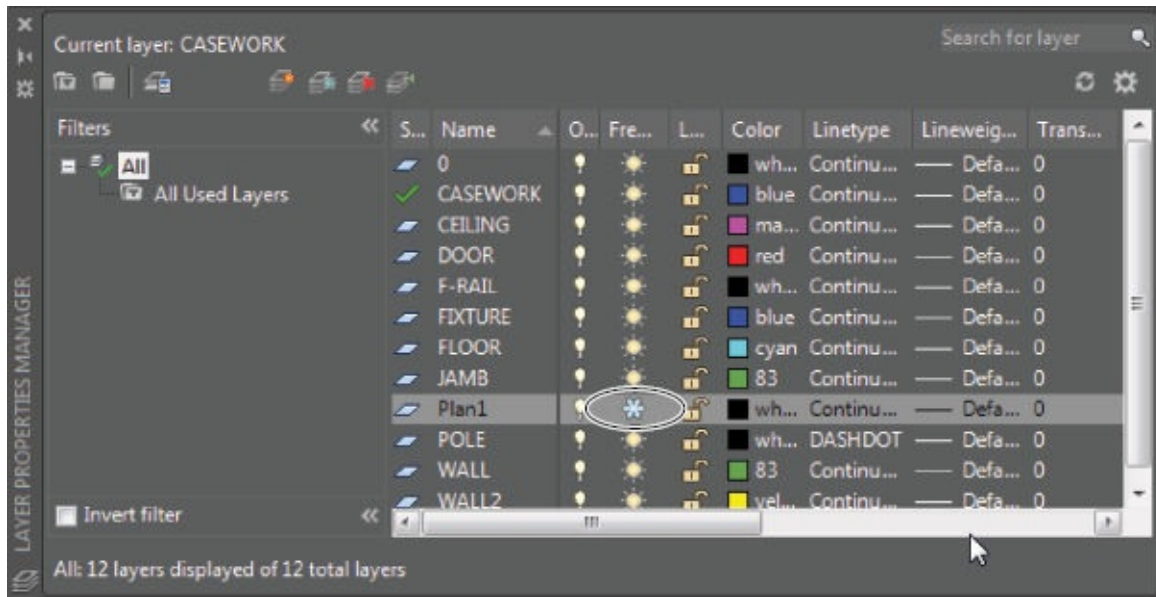

FIGURE 7.7 Freezing the Plan1 layer
6. Click the `Plan1` layer to select it and then click its Freeze/Thaw icon. (You can't freeze the current layer.) The yellow sun icon changes to a gray snowflake, indicating that the layer is now frozen (see Figure 7.7). Only the unit blocks disappear.